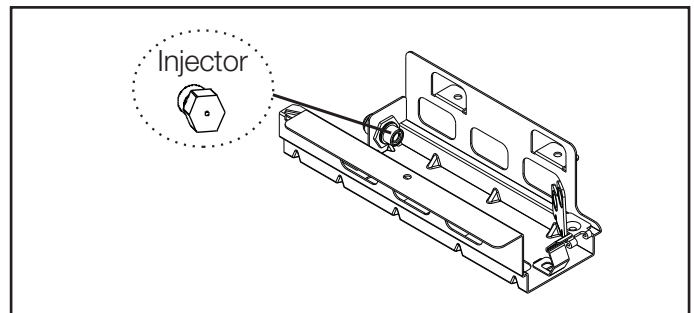

Figure 9
3. Remove the screw and withdraw the burner diagonally to reveal the injector as shown in figure 9.